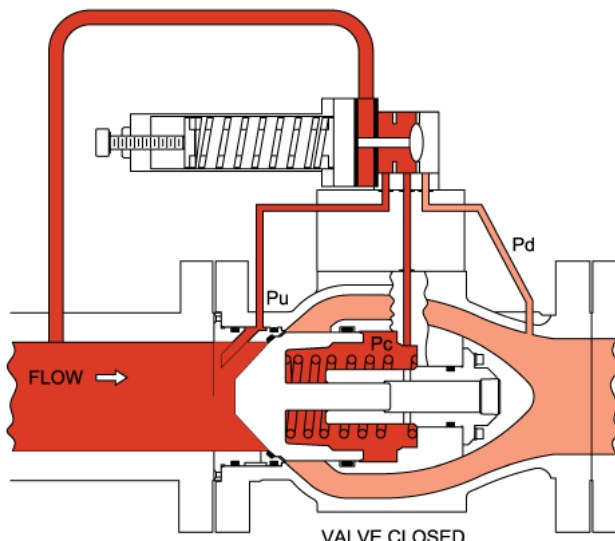
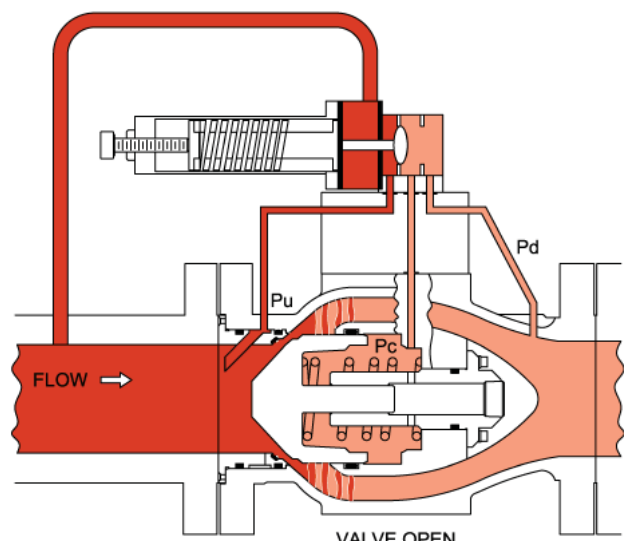

Figure 1
Figure 2
The sequence of operation is illustrated in Figures 1 and 2. The valve ports are identified as follows:
When P_U is connected to P_C (Fig 1), upstream pressure (P_U) is routed into the plug cavity (P_C) causing the valve to close against a soft seat for an ANSI/FCI 70.2 Class V shutoff. When the pilot shuttles to the opposite position (Fig 2), P_C is connected to P_D and the cavity pressure P_C is vented to the vena contracta (lowest pressure area within the valve) causing the valve to throttle open.
- When upstream pressure is under 100 psig, valve closes (Fig 1)
- When upstream pressure is 100 psig or above, valve throttles open (Fig 2)